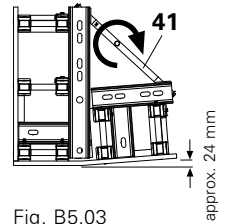

Fig. B5.03
Untighten spindle (41). This results in a striking clearance of approx. 24 cm. (Fig. B5.03)